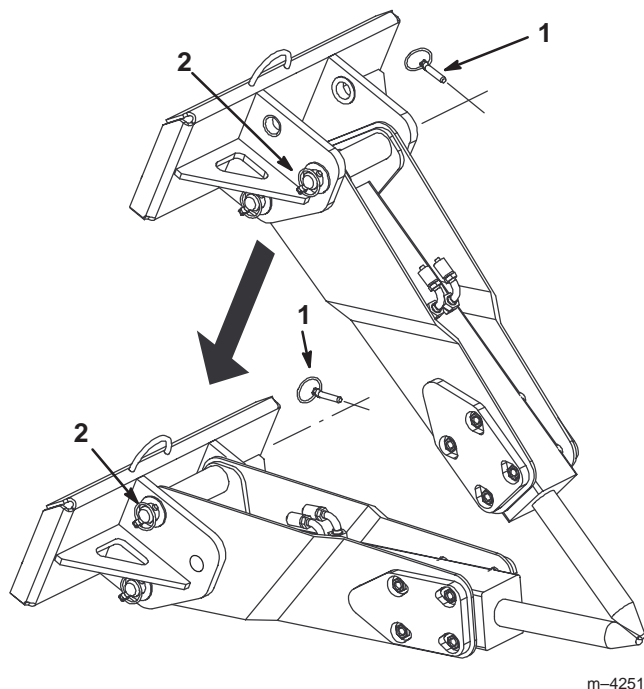

Figure 4
2. Remove the click pin securing the front mounting pin (Fig. 4).
3. Drive the front mounting pin out of the breaker (Fig. 4).
4. Lower the loader arms until the holes in the breaker align with the upper holes in the mount (Fig. 4).
5. Drive the front mounting pin through the upper holes and secure it with the click pin (Fig. 4).